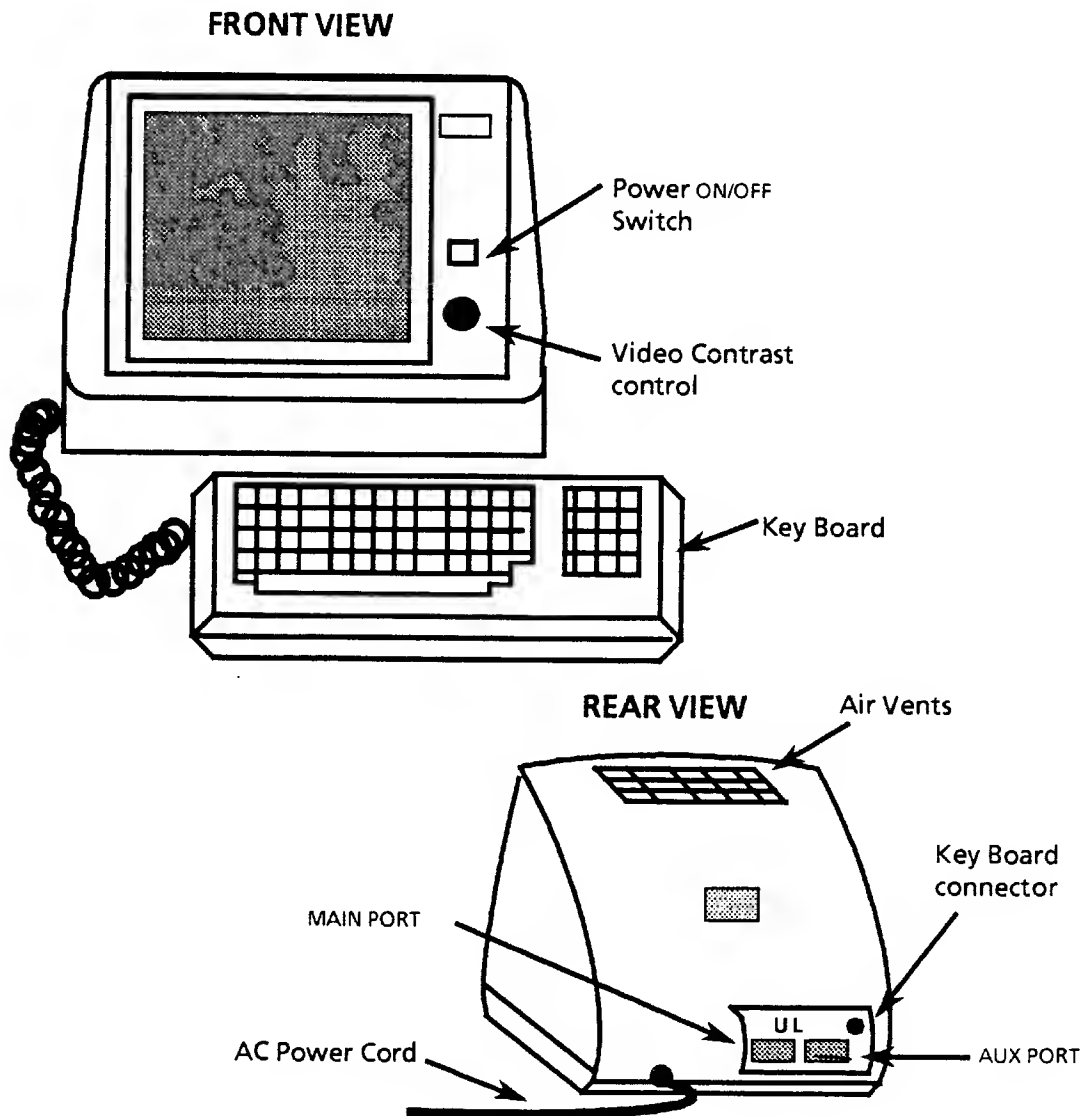

Figure 1-1 Front and Rear View of MDT 20 Video Display Terminal
**Power ON/OFF switch and Video Contrast control** are located on the front of the monitor for user convenience. At the rear of the housing are the Interface connectors, Keyboard connector, and AC power cord. Refer to figure 1-1.